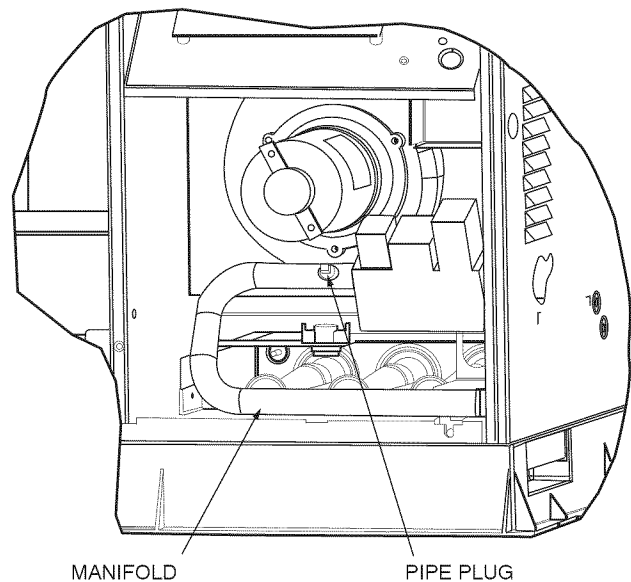

Fig. 20 - Burner Assembly
- b. Remove pipe plug on manifold (See Fig. 20) and connect manometer. Turn on gas supply to unit.
- c. Replace pipe plug on manifold (See Fig. 20).